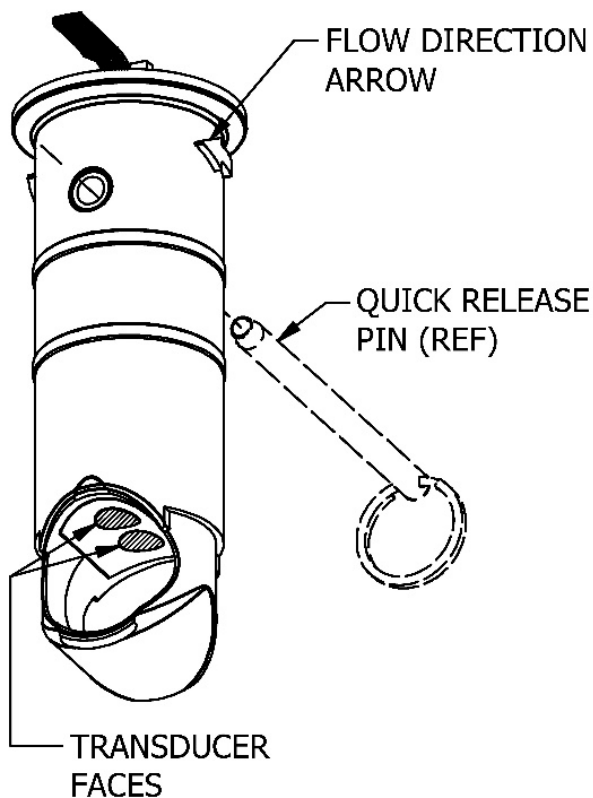

Figure A3
**DO NOT** use wire brushes or abrasives to clean the faces of the transducers (see Figure A3).